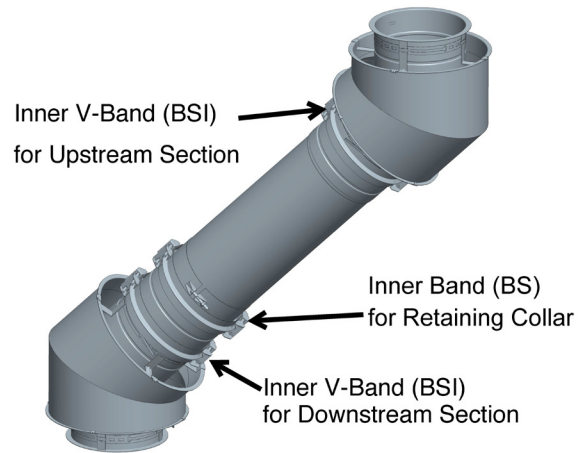

Figure 38 - Step 10-11 - Secure the Retaining Flanged Band
Step 10 - Then install the other V-band (BSI) over these flanges (like regular joint assembly). See **Figure 38**.